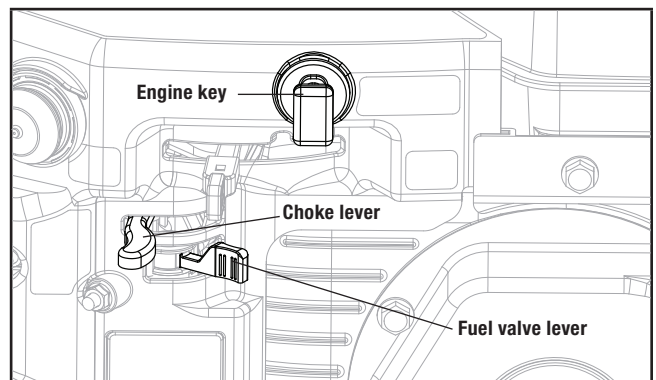

Figure 11A
1. Make sure the engine safety key is inserted into the key hole (Fig. 11A).
2. Move the fuel valve lever to the on position (Fig. 11A).
3a. To start a cold engine, move the choke lever to the choke position (Fig. 11A).